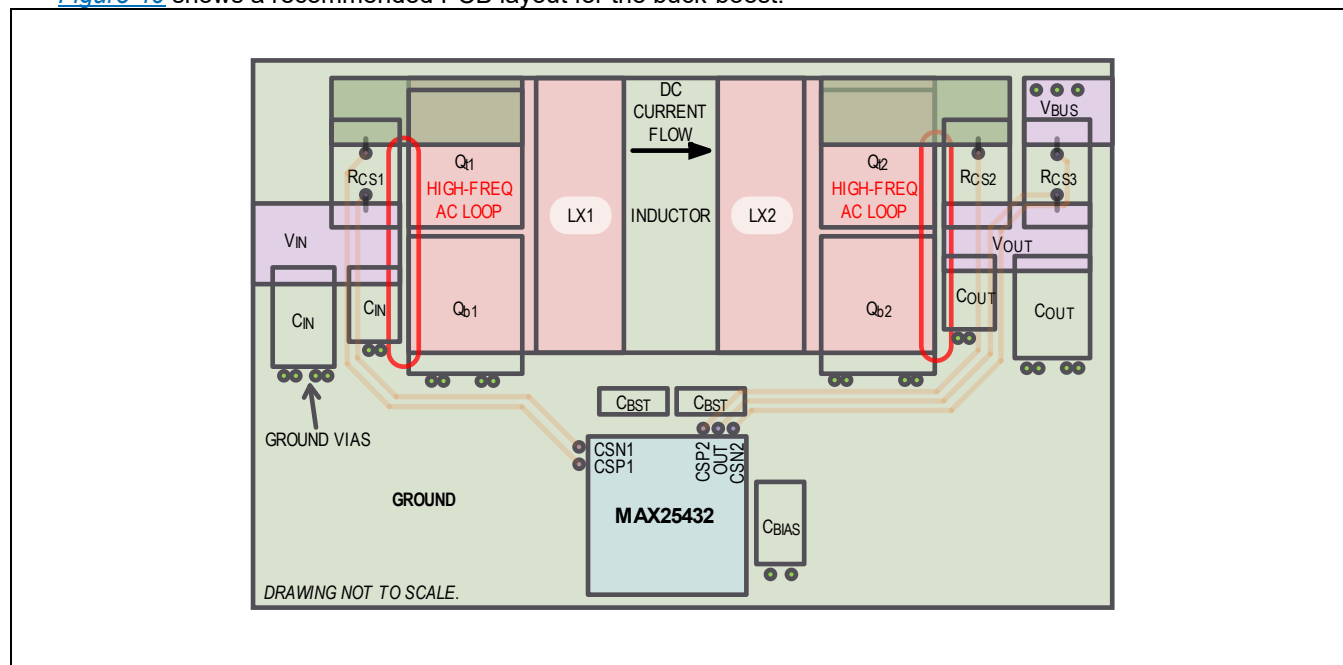

Figure 40. Recommended Buck-Boost PCB Layout
Use the following guidelines and see Figure 40 for an optimized buck-boost layout:
15. Place vias as close to the AGND pins as possible to provide a low impedance path to the ground plane underneath. Figure 40 shows a recommended PCB layout for the buck-boost.